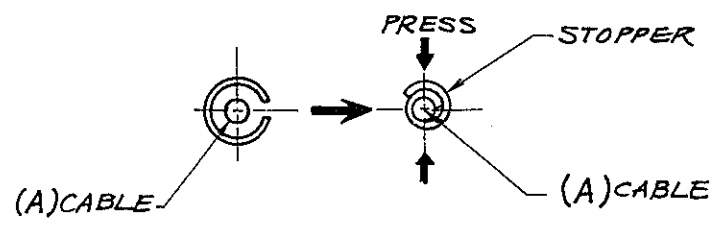

FIG. 2
Note: *This part may be made per figure 2, Detail-Stopper.
(2)-1 Check that the cables (A) are not deflected excessively outward as illustrated in figure 2.
(2)-2 Check for the correct installing position of the stopper attached at each end of the cable (A). (See figure 2, view A.)
(3)-2 If the stoppers are not located within the specified limits as shown in figure 2, view A, adjust the existing stoppers or install new stoppers at the specified position.